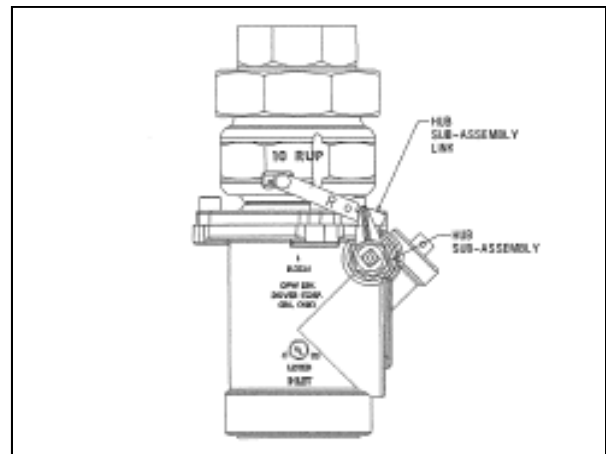

Figure 4
After the valve has been attached to riser and pedestal piping, and pressure testing completed, it should be cocked open. To open the valve, rotate the hub sub-assembly to the left (counter-clockwise), raise the hub sub-assembly link and engage it with the pin in the hub sub-assembly. (See Figure 4).
1. By pushing down on the hub sub-assembly link. (See Figure 4)